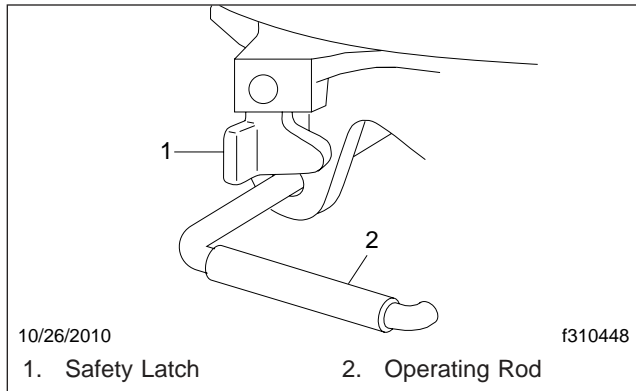

Fig. 10.12, Simplex Kingpin Locking Mechanism, Safety Latch (locked position)
During coupling, the kingpin contacts and rotates the jaw into the locked position. This action automatically moves the operating rod into the locked position. This securely locks the jaw around the kingpin. In the locked position the safety latch swings freely over the operating rod. See Fig. 10.12.
7. Make a visual check (even if equipped with the Touchloc air-operated system) for positive kingpin lockup. The trailer bed plate must be flush on the fifth wheel plate surface. When positive lockup has occurred, the fifth wheel operating rod will have moved inward to the locked position, and the safety latch will swing freely over the operating rod. See **Fig. 10.12**.